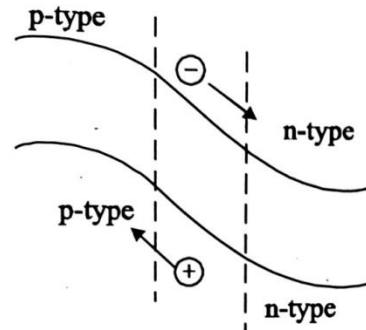

Fig. 4.18
4. Now, electrons from 'p' type move towards 'n' type and holes from 'n' type move towards 'p' type as shown in figure 4.18.